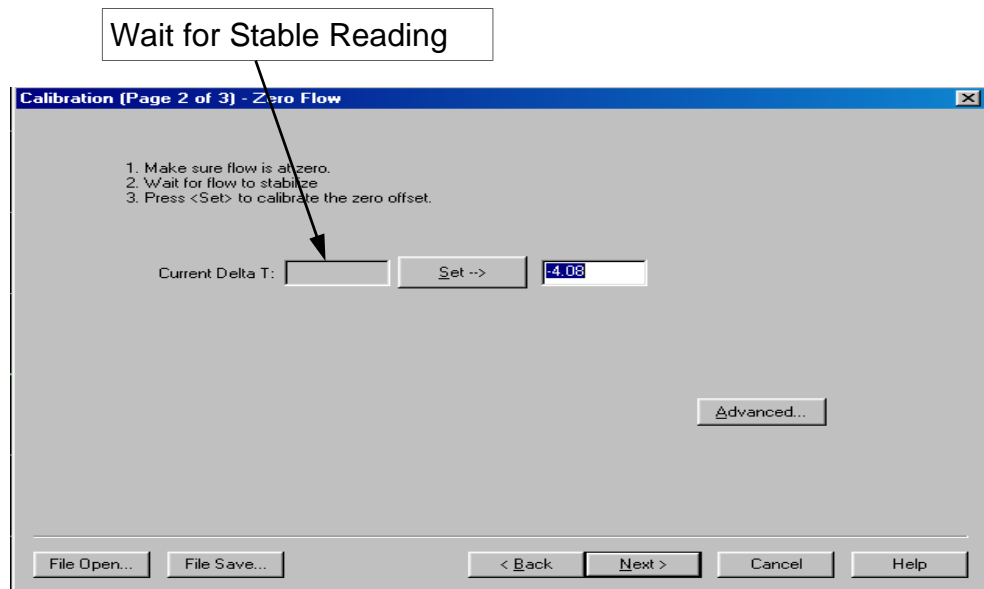

Figure 4.11
2. On Page 2 of 3, Calibration—Zero Flow, note the **Current Delta T** that is displayed in the window. Note the value located in the **Set ->** box. If the box is empty, note the value as zero. See **Figure 4.11**.